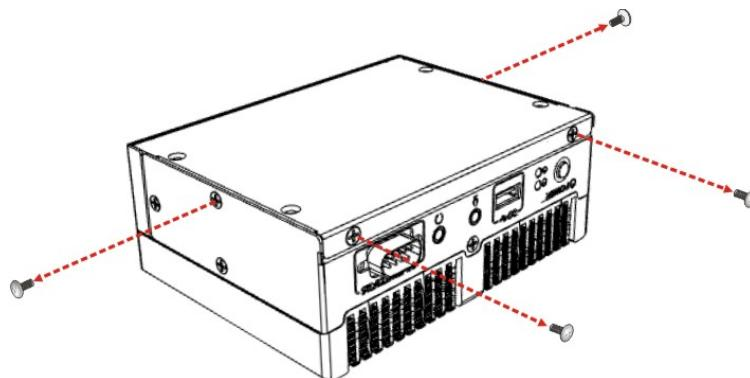

Figure 3-1: Bottom Surface Retention Screws
- Step 1:** Remove the bottom surface retention screws. The bottom surface is secured to the chassis with four (4) retention screws (**Figure 3-1**). All four (4) screws must be removed.